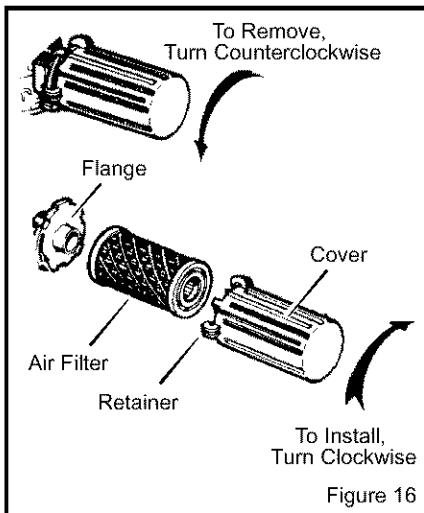

Figure 16
2. Turn the **cover** to the left (counterclockwise). Remove the **cover** and the **air filter** from the **flange**. (see Figure 16).